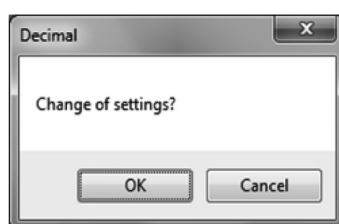

Fig.89
- ⑤ After all settings are complete, click the "OK" button to display a message box (Fig. 89).